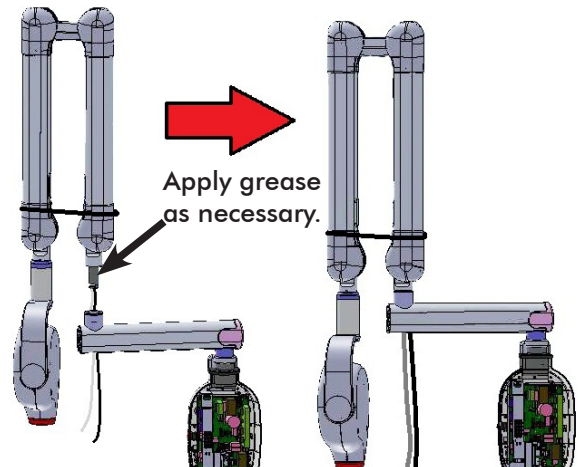

Figure 76
- Holding the scissor-arm close to the straight arm, insert the cables inside the straight arm (free end) through the top hole into the straight arm till it comes out at the free end of straight arm and slowly insert the Scissor-Arm assembly into the straight arm without damaging the cables as shown in Figure 76.